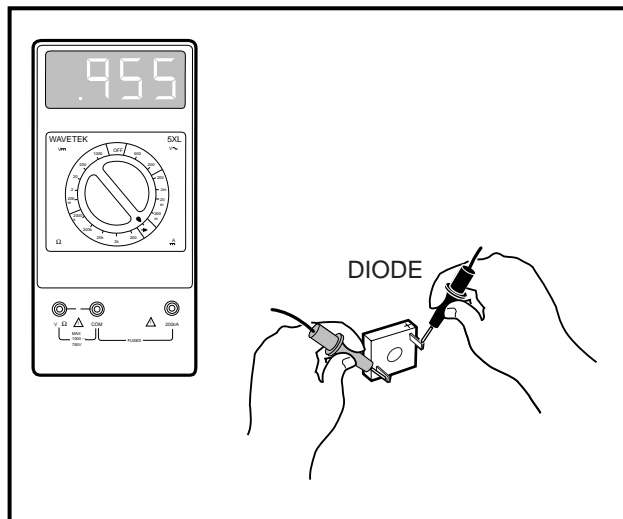

Figure 11-35 Diode Test
3. With the multimeter set to the diode test function ($\rightarrow|$), connect the black (-) probe of the multimeter to the (+) terminal of the diode and the red (+) probe on the other terminal of the diode (**Figure 11-35, Page 11-30**). The reading should be approximately 960 mV.